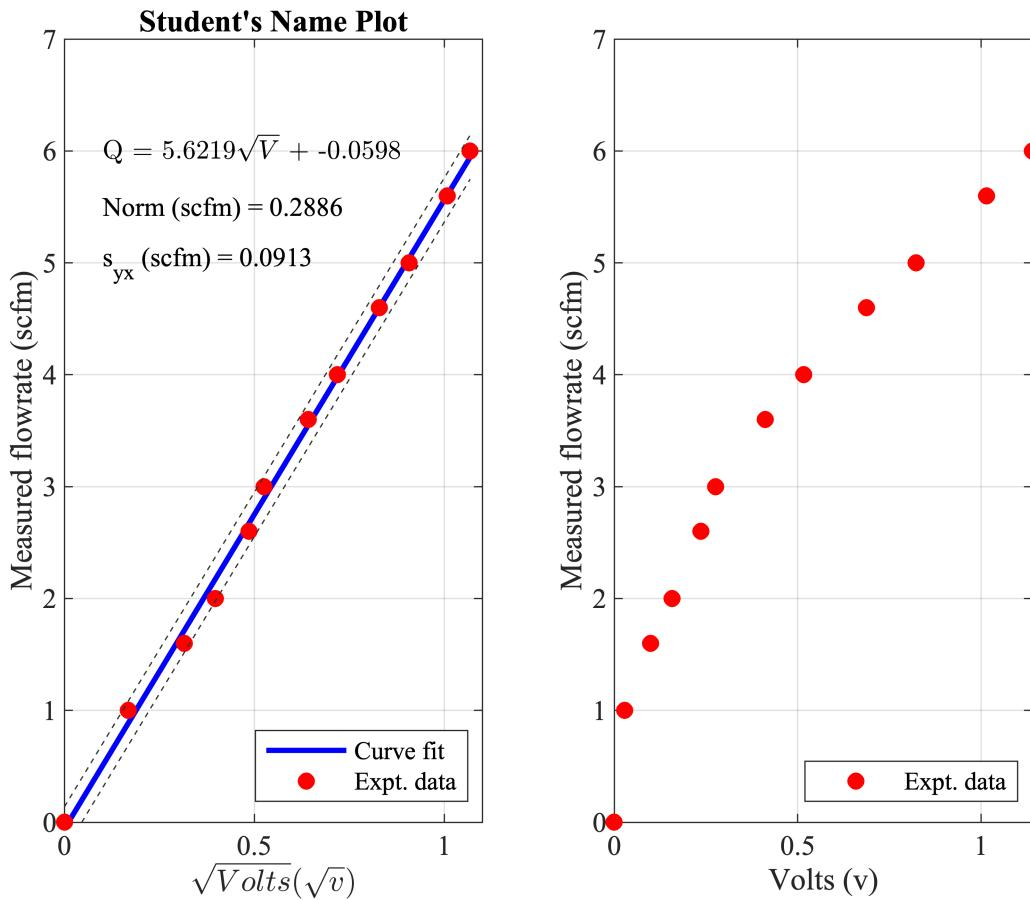

Figure 4: Sample calibration plot with all the relevant details.
- Refer to the next section to create a calibration plot with data (i.e, calibration data recorded in your log book). A sample calibration plot is shown in Figure 4.
- Create a figure with two subplots. See sample calibration plot in Figure 4. You will produce a similar plot for your calibration.
- Compare your plots to the example plots shown in figure 4 and 5 to confirm that you have completed the assignment correctly. Note that your values will differ, but your formatting and annotation should match.